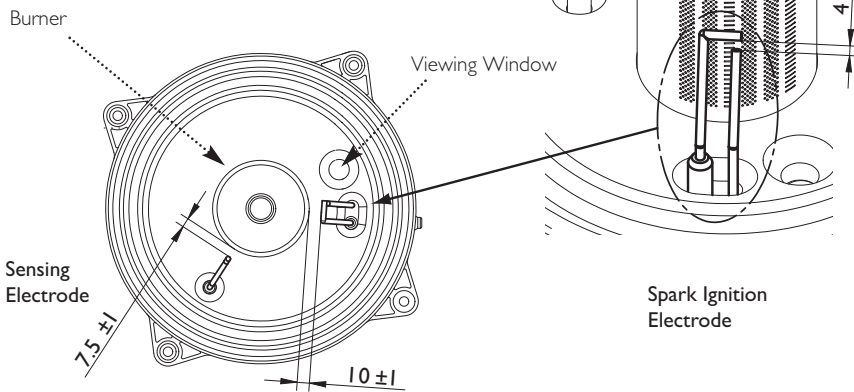

Fig. 45
11. Inspect the burner, electrode position (Fig. 45) and insulation, cleaning or replacing if necessary. Clean any dirt or dust from the air box.